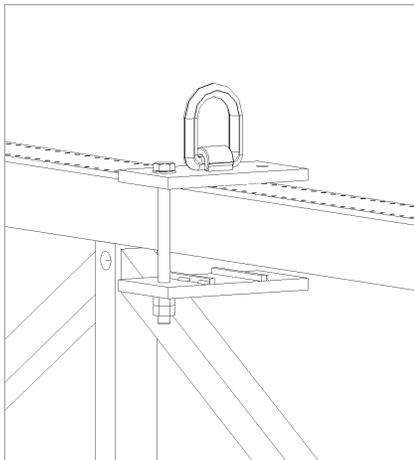

Fig. A1.02
2. Loosen nuts on remaining bolt and slide Lifting Clamp onto SKYTABLE truss chord. (Fig. A1.02)